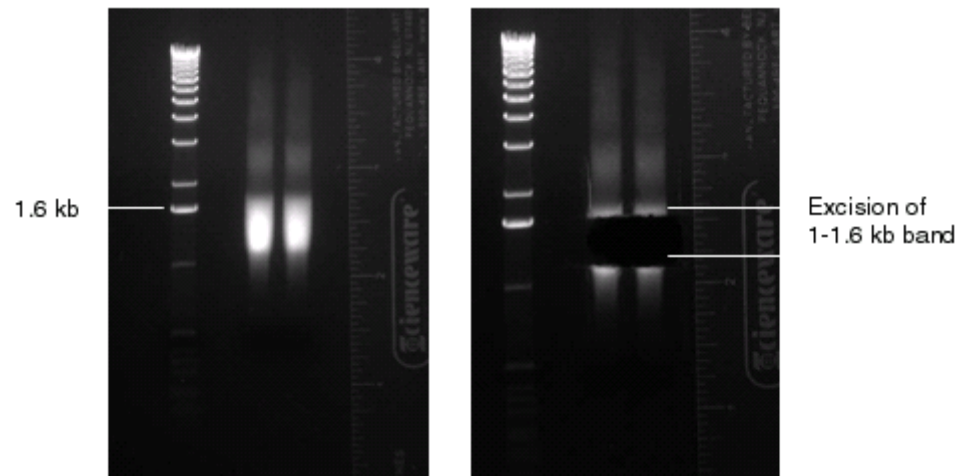

Figure 16 Excision of 1-1.6 kb range in a 1.0% agarose gel.
7. Using the ladder bands and the ruler for reference, excise the band of the gel corresponding to the insert size range of interest with a clean razor blade (see Figure 16 on page 105). If desired, take a tighter cut for a tighter size selection. If the gel piece is large, slice it into smaller pieces.